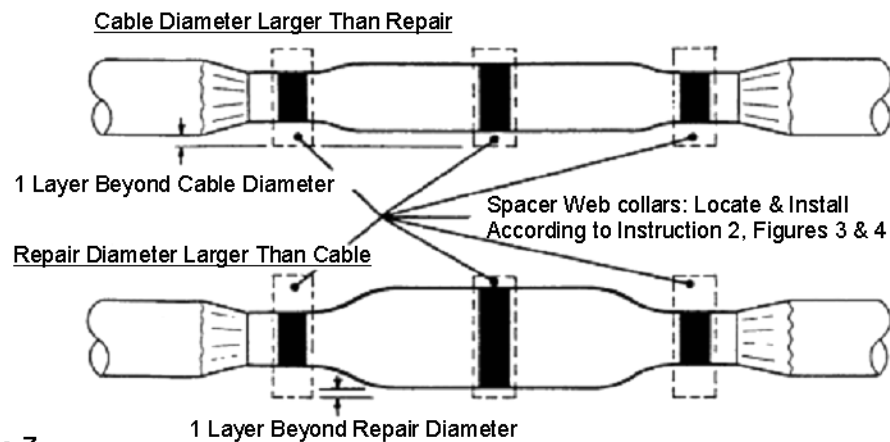

Figure 7
2. Wrap on spacer web collar(s); build *EQUAL DIAMETERS* to 1 layer greater than repair or cable diameter, whichever is largest. (Figure 7) *Locate and install collars according to INSTRUCTION 2, FIGURES 3 & 4, PAGE 7*.